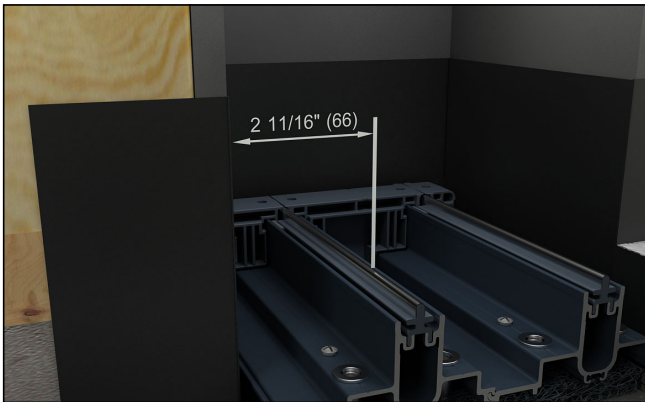

Figure 9
NOTE: For pocket systems the exterior track must be positioned 2 11/16" (66) from the interior surface of the exterior wall. See figure 9.